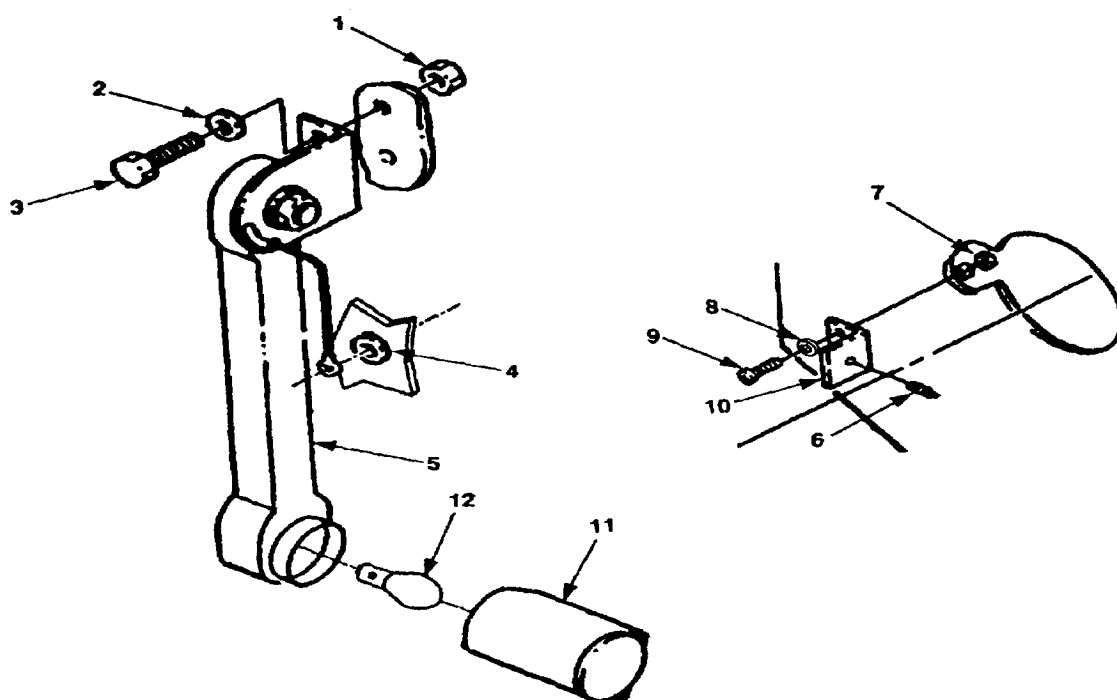

Figure 4-50. Panel Light Replacement (All Except Model 350 PAFN).
- a. Remove nuts (figure 4-50, 1), washers (2), screws (3), and grommet (4).
- b. Disconnect panel light (5) from TB1-7 and remove panel light (5).
- c. Remove threaded spring plunger (6).
- d. Remove nuts (7), washers (8), screws (9), and spring plunger bracket (10).